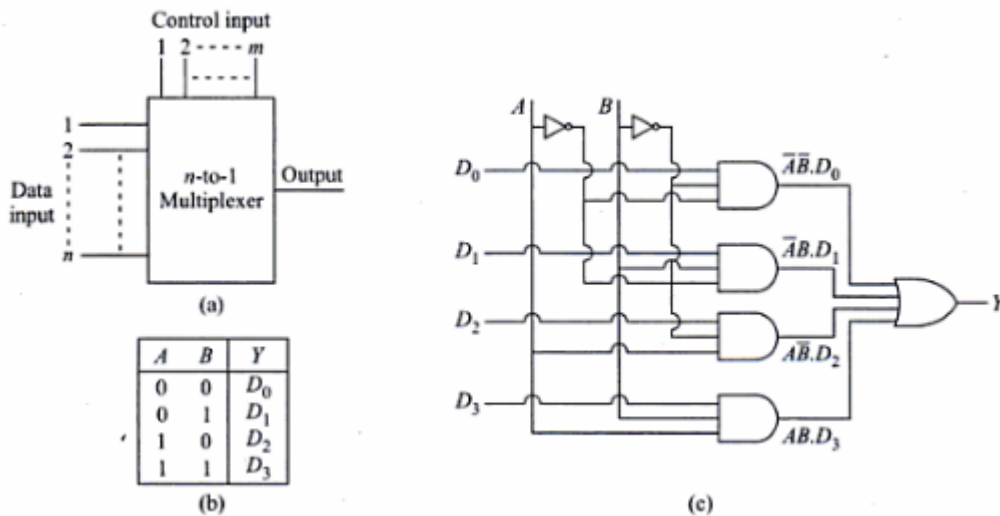

Figure 4.1: a) Multiplexer block diagram b) 4:1 multiplexer truth table c) logic circuit
- Thus, it is also called a *data-selector* and control inputs are termed select inputs (Figure: 4.1).